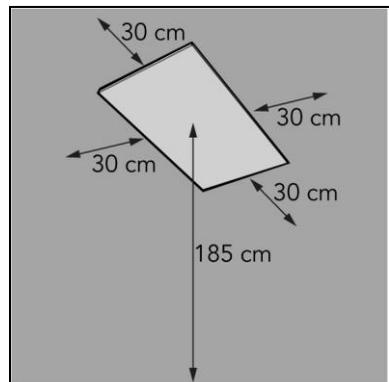

Figure 12
2. Place the device with a minimum distance (Figure 12) of: